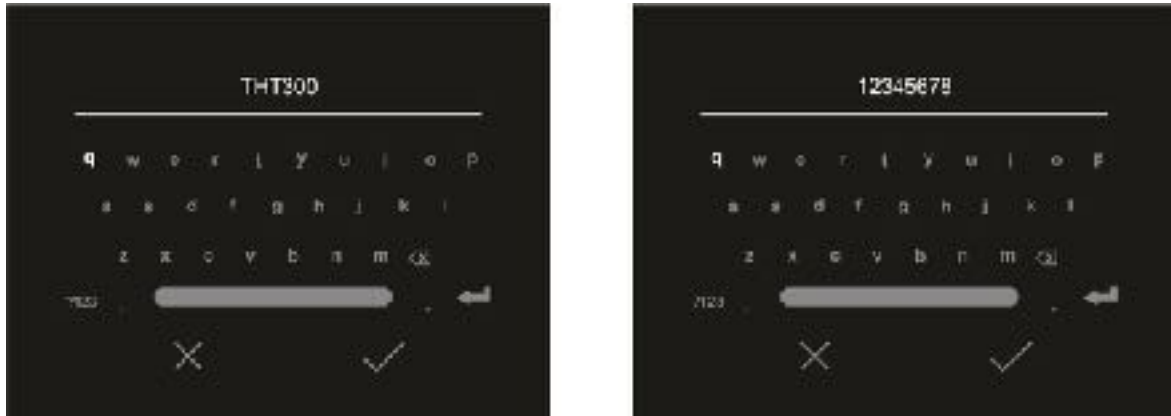

Fig. 15: Definition of SSID and Password of the WiFi connection
3. Touch item “SSID” to define a custom identification ID of the WiFi connection. The screen in Fig. 15 – left side appears on the display.
5. Touch item “Password” to define a custom Password for the WiFi connection (default “12345678”). The screen in Fig. 15 – right side appears on the display.